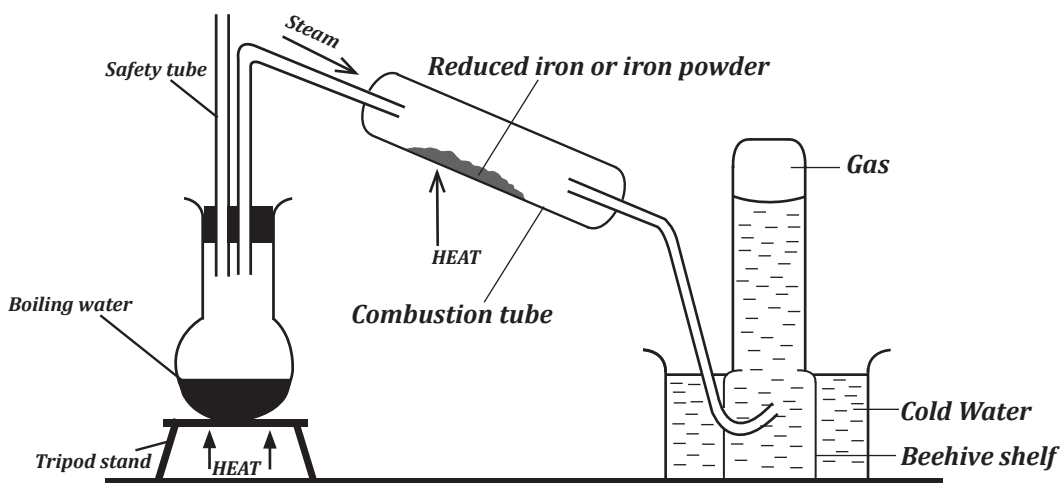

Fig. 10.6 The action of steam on heated iron
2. Arrange the apparatus as shown in figure 10.6 (but without the gas jar in position)